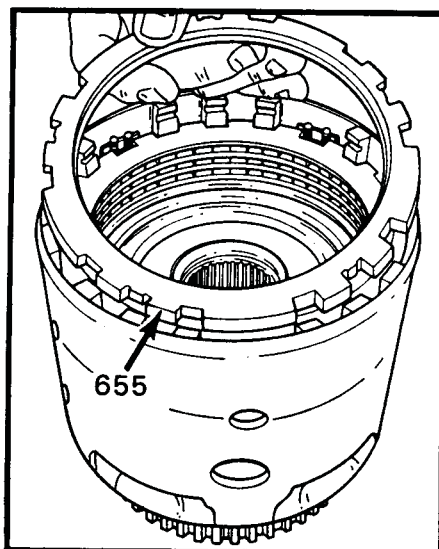

Figure 137
3. Install the 3-4 clutch FLAT apply plate as shown in Figure 137. This plate has wide tabs as shown in Figure 137. SOME MODELS DO NOT USE FLAT APPLY PLATE (SEE FIGURE 141).
6. Install the proper 3-4 clutch backing plate as shown in Figure 137. THIS BACKING PLATE IS DIFFERENT ON THE DIFFERENT MODELS. WHEN THE THICKER 3-4 STEEL PLATES WERE INTRODUCED, BACKING PLATE WAS MADE THINNER. MAKE SURE OF THE MODEL YOU ARE WORKING ON TO INSURE PROPER BUILD CONTENT (SEE FIGURE 141).